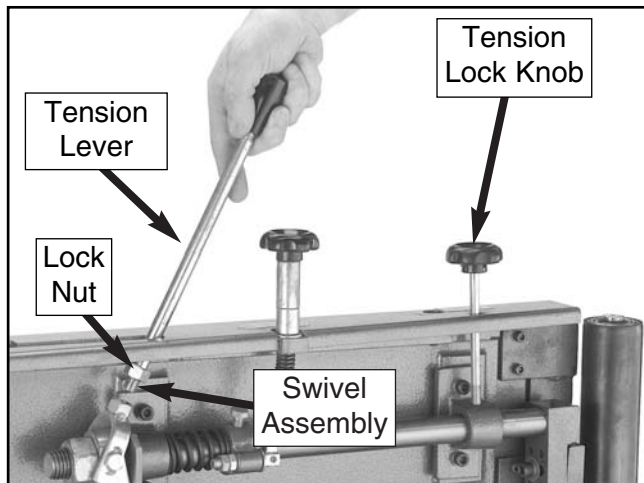

Figure 6. Installing tension lever in swivel assembly.
1. Thread the end of the tension lever into the swivel assembly as shown in **Figure 6**.